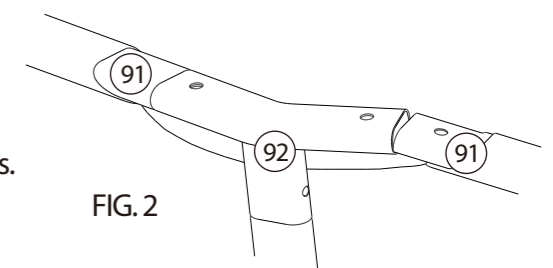

FIG. 2
3. When you get to the last connection, install the last Tee Fitting on the end of one of the beams. Lift up on both of the last two Beams in order to get them to insert into the Tee Fitting. Angle them towards each other and guide the Beam into the Fitting as you lower them both down together. See Fig. 2. This step may require two people. Now, begin inserting the Pins (93) / Grommets (97) down through the top of the Tee Fittings until the Pin snaps into place on the lower side of the Fitting as shown in Fig. 3.